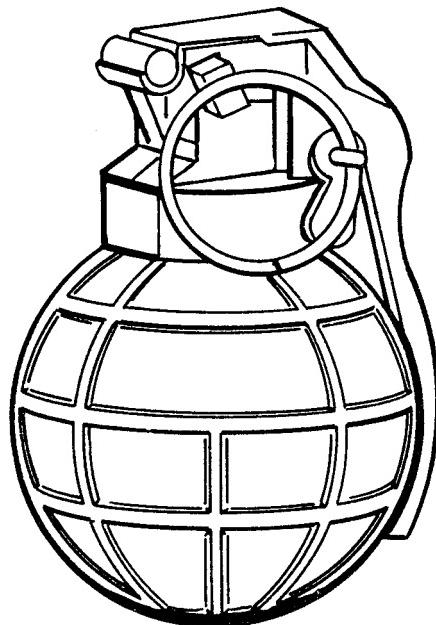

Figure F-18. Spl HGr 77 hand grenade.
- Type: Defensive. (Figure F-18)